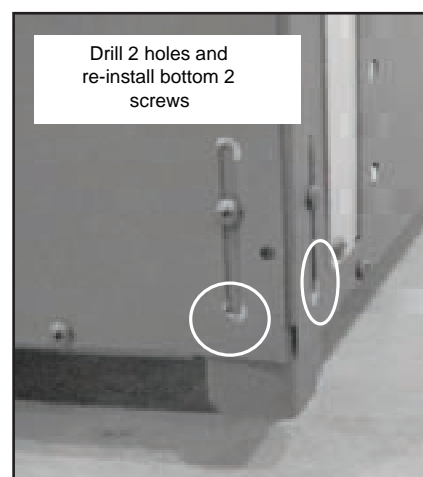

Figure 18.5
4. Drill 2 holes for the bottom 2 screws and re-install screws. **Figure 18.5.**